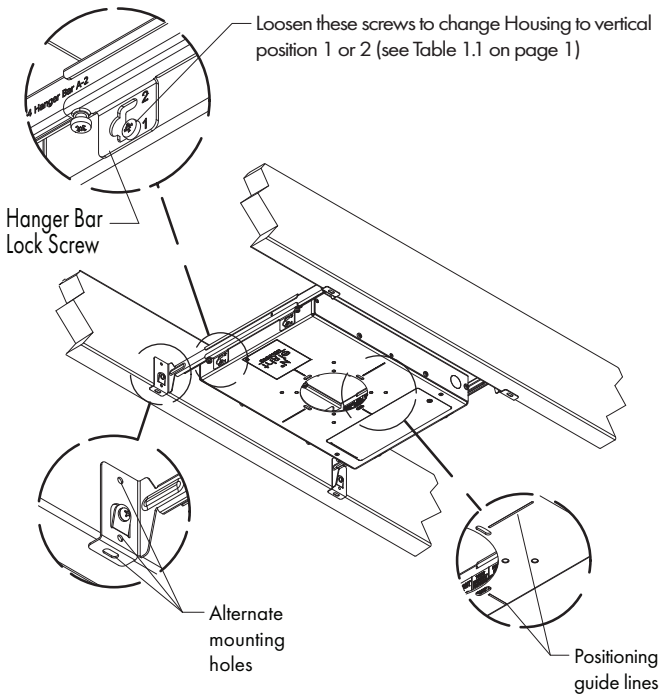

FIG 3.1 Fastening Housing to joists
- STEP 1 Spread Hanger Bars to approximate joist spacing. Temporarily secure Lock Screws to keep Housing from sliding along Hanger Bars – **FIG 3.1 & 3.2.**
- STEP 2 Secure Housing & Hanger Bar assembly to Joists using either the fasteners supplied on Hanger Bars or fasteners through alternate mounting holes – **FIG 3.1.**
- STEP 3 Reposition Housing along Hanger Bars as needed. Use guide lines to help locate Housing relative to nearby walls or other fixtures – **FIG 3.1 & 3.2.**